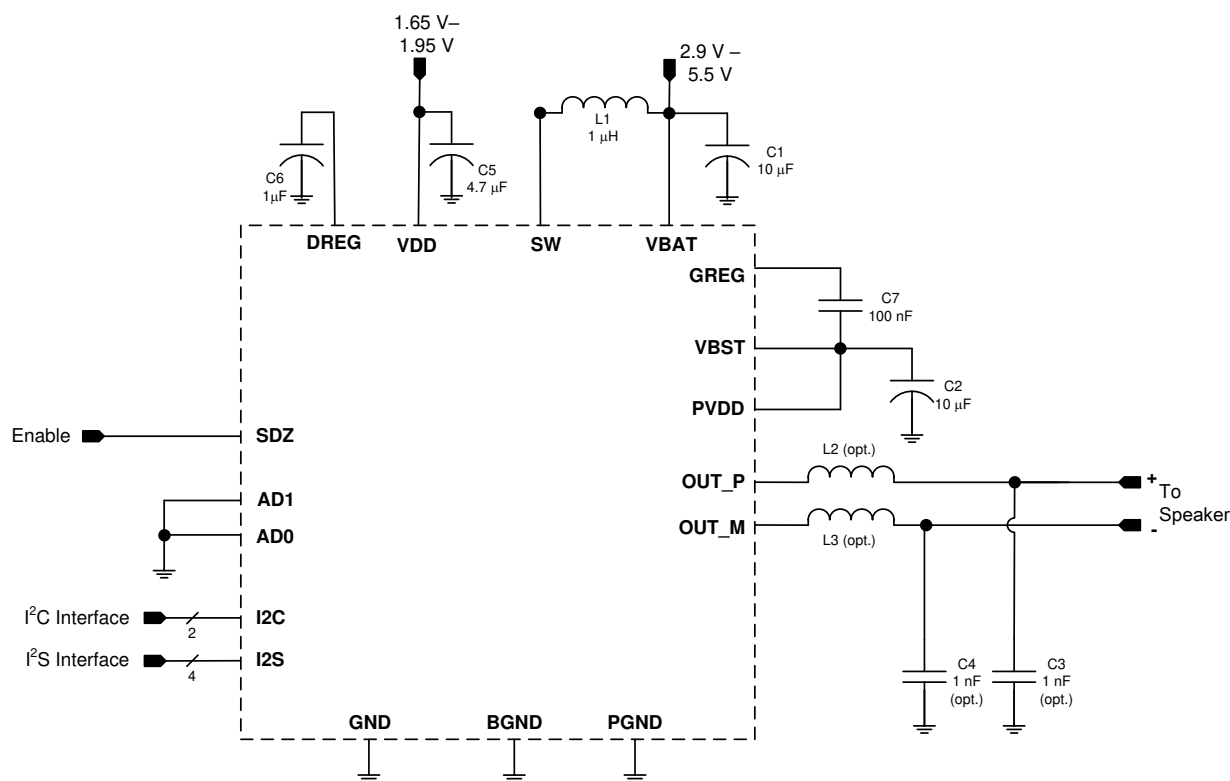

图 50. Typical Application - Digital Audio Input
The boost converter requires three passive devices that are labeled L1, C1 and C2 in 图 50 and whose specifications are provided in 表 272. These specifications are based on the design of the TAS2110 and are necessary to meet the performance targets of the device. In particular, L1 should not be allowed to enter in the current saturation region. The saturation current for L1 should be > I_{LIM} to deliver Class-D peak power.
The system designer may want to include passive devices on the Class-D output . These passive devices that are labeled L2, L3, C3 and C4 in 图 50 and their recommended specifications are provided in 表 272. If C3 and C4 are used, L2 and L3 must also be installed, and C3 and C4 must be placed after L2 and L3 respectively to maintain the stability of the output stage.
The boost supply (VBAT) and associated passives need to be able to support the current requirements of the device. By default, the peak current limit of the boost is set to 4 A. Refer to 表 86 for information on changing the current limit. A minimum of a 10 μ F capacitor is recommended on the boost supply to quickly support changes in required current. Refer to 图 50 for the schematic.
- Use supply decoupling capacitors as shown in 图 50 and described in Power Supplies.